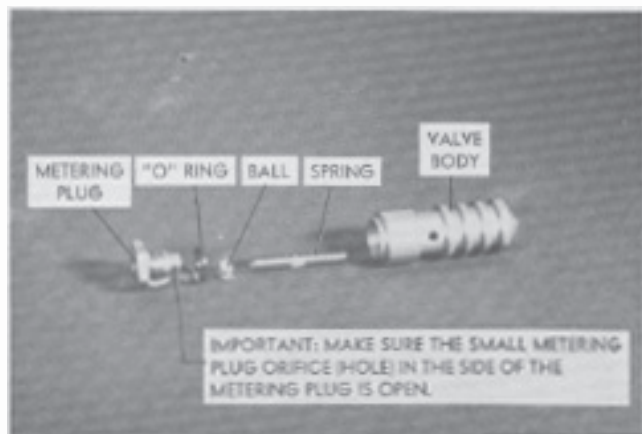

FIG. 70.
- a. Make sure the small metering plug orifice in side of the metering plug is open. (Fig. 70).